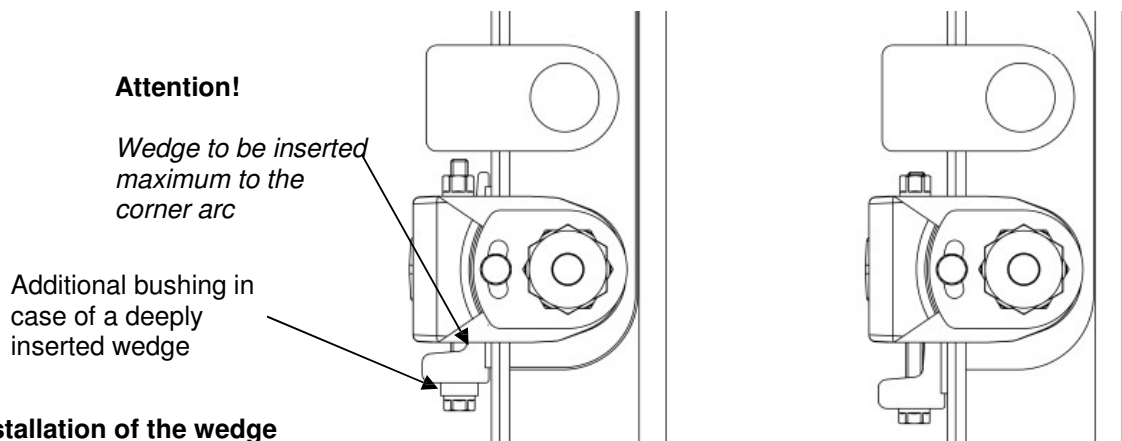

Fig. 6 Installation of the wedge
- Wedge to be inserted maximum to the corner arc. If necessary, adjustment shims need to be used. The tip of the wedge does not need to overlap on the opposite side (Fig. 6).
- In case, the bolt of the wedge gets contact to the control rod, an additional bushing has to be installed (Fig. 6 – left hand).